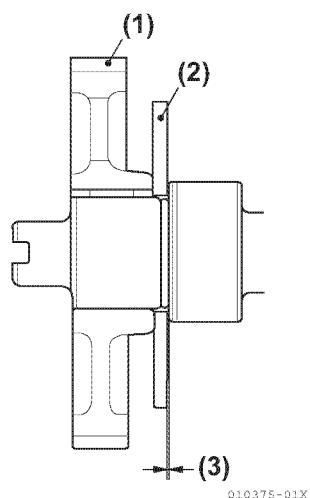

Figure 5-142
17. Measure the camshaft side gap (**Figure 5-142**). Ensure the camshaft rotates smoothly.